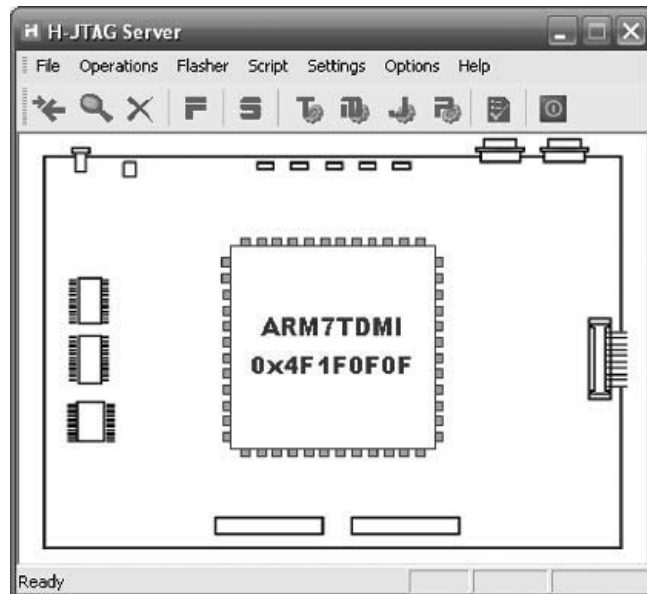
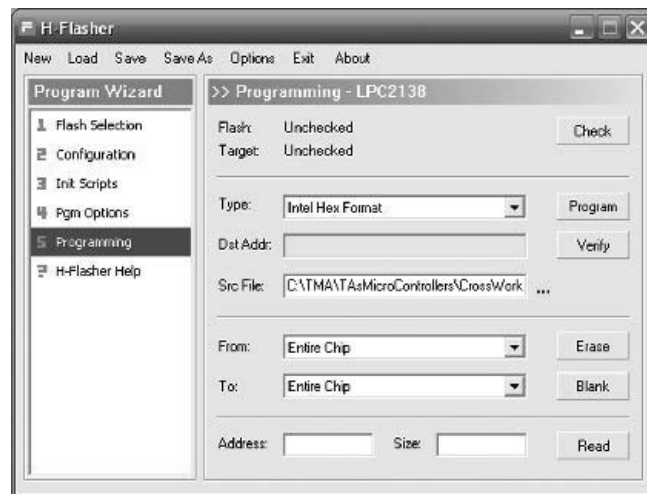

Figure 9 — Here is a screen shot of the H-JTAG Initial Screen.
Figure 11 — This screen shows the H-Flasher NimbleSig III programming settings.
When H-JTAG is started, the “H-JTAG Server” window shown in Figure 9 should pop up. If the H-JTAG options are not set properly for your interface and/or parallel port it may not successfully detect the LPC2138, and may consequently show the device ID as “UNKNOWN” in red text.
Once all the options are set correctly, H-JTAG should detect the LPC2138 and display the “ARM7TDMI 0x4F1F0F0F” chip ID in blue text as shown in the center of Figure 9. The chip detection may be re-tested by clicking on the “Detect Target” option under the “Operations” menu item.
Once H-JTAG detects the MPU correctly, as shown in Figure 9, you are ready to take the programming plunge. Click the “Flasher” menu item and select the “Start H-Flasher” drop down option. You should get a new Window titled “H-Flasher” similar to that shown in Figure 11.
- Select no. 5 “Programming” option and you should get a new internal window titled “>> Programming – LPC2138” as shown in Figure 11. Set the file type to “Intel Hex Format” and point (via the “...” button) to the “Src File:” by browsing through your file structure to the location of the NimbleSig III program code hex file. To make this easier for the next time, you can save all these settings if you wish. I chose to save them in a file called ns3 and H-Flasher added the “.hfc” extension to making the full file name ns3.hfc.